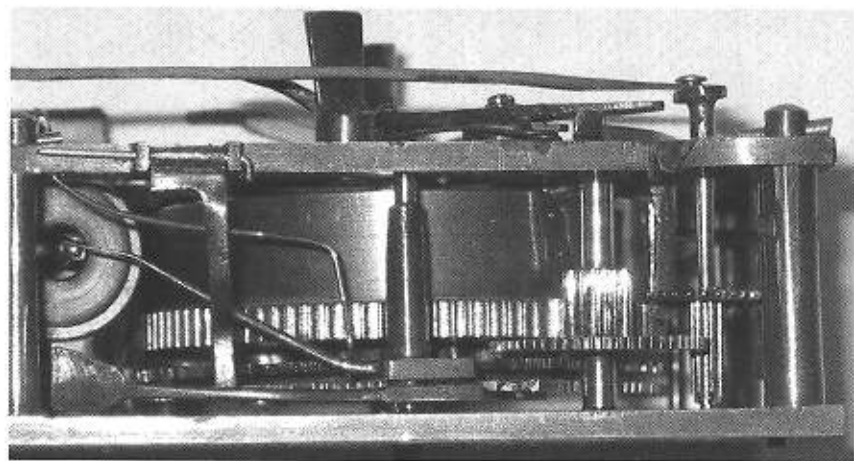

Fig 7. Coaxial tube bearings (centre) for the two song cam followers. Type 4.
3. The cam followers for the air valve and whistle damper are pivoted using brass tubes coaxially on one arbour as shown in Figure 7 a). This gives rise to greater friction and this arrangement has an influence of the ratios of each of the two followers/levers. Separate arbors are adopted in Type 4.